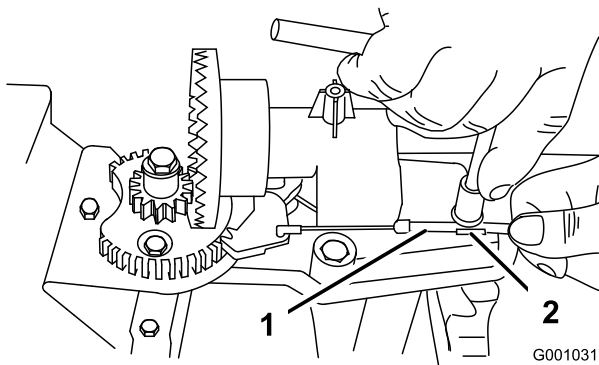
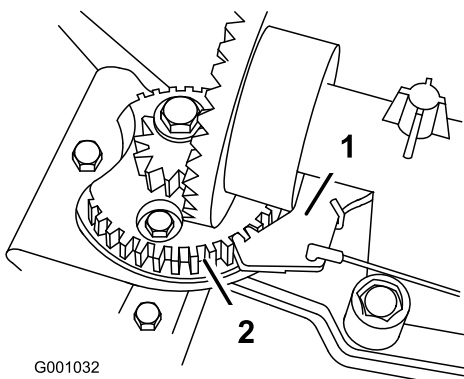

Figure 47
Figure 48
Note: The latch is spring loaded and will naturally move into the teeth of the gear (Figure 48).
2. Loosen the bolt on the cable clamp (Figure 47).
3. Grasp the cable conduit and move it toward the front of the machine until the discharge chute latch fully engages the gear teeth (Figure 47 and Figure 48).